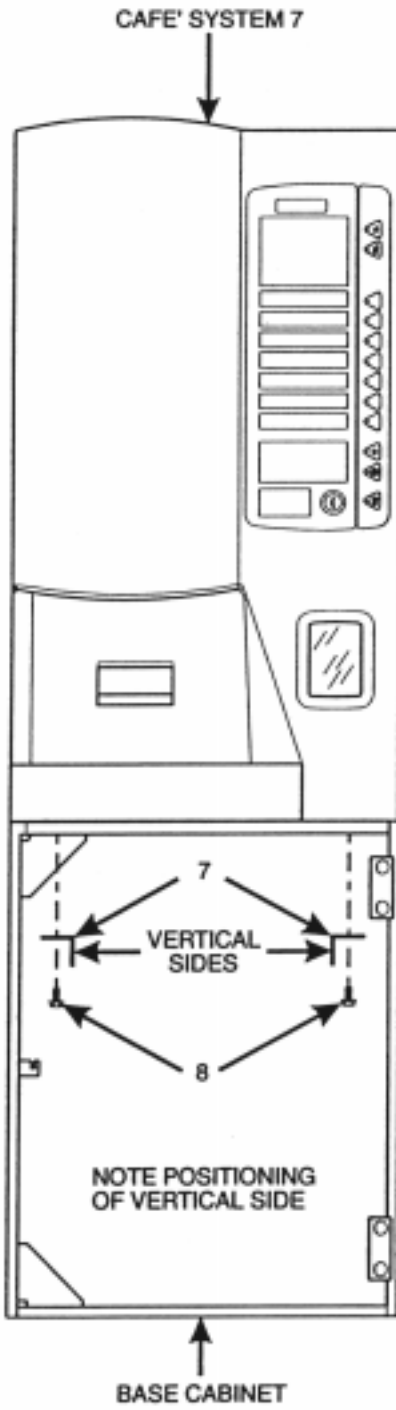
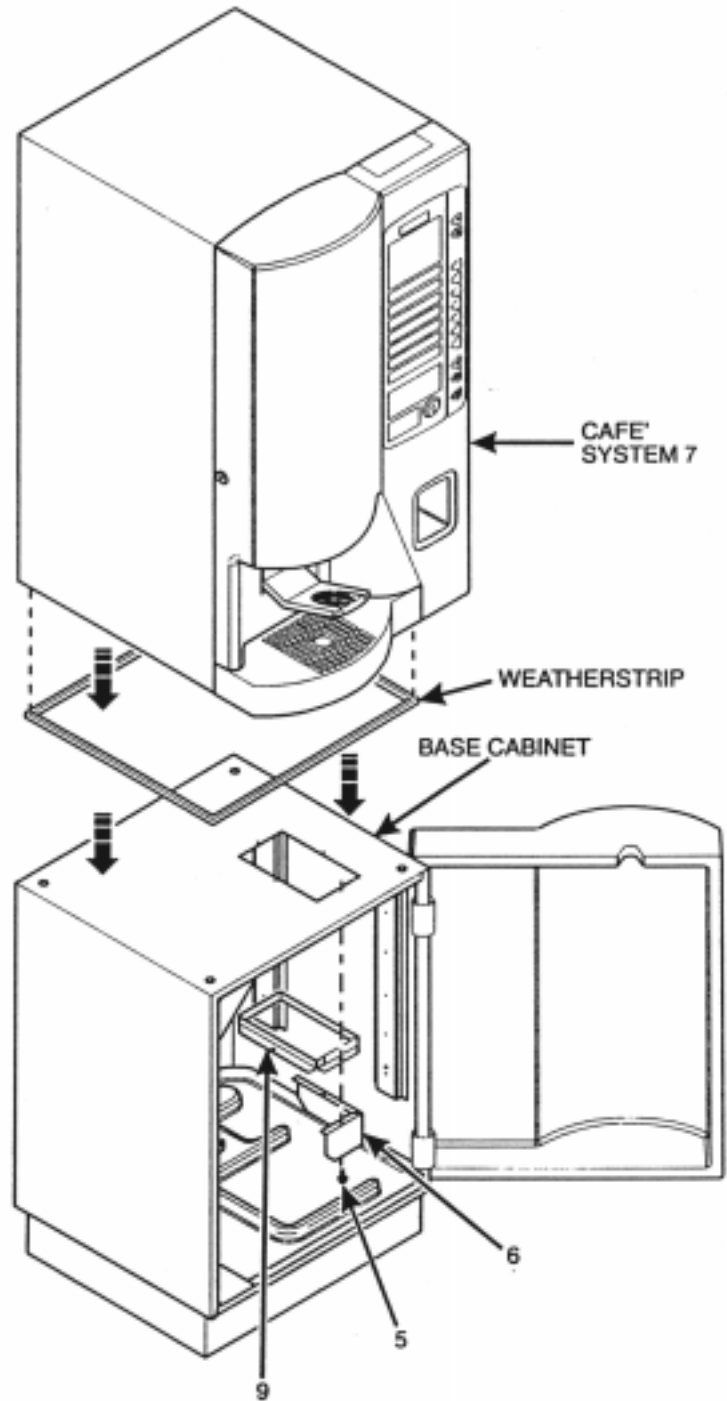

Figure 4
Figure 5
4. Position one of the base cabinet mounting angle brackets (7) as shown (figure 4). The vertical side of the angle bracket **must** be toward the inside of the cabinet to provide maximum strength.
5. Secure the Cafe' System 7 to the base cabinet by inserting a thread cutting screw (8) up through the front hole of the angle bracket and the top of the base cabinet into the plastic foot of the Cafe' System 7. **YOU ARE CUTTING THREADS IN THE PLASTIC FEET. TAKE CARE WHEN TIGHTENING THE SCREWS TO AVOID STRIPPING THE PLASTIC FEET!** Tighten the screw just enough so the angle bracket does not move. Repeat for the rear hole.
7. Install the grounds opening enclosure (9) into the top of the base cabinet from the bottom side as shown (figure 5). Install the grounds opening deflector (6) as shown in figure 5 beneath the grounds opening enclosure. These two parts will ensure all spent coffee grounds are directed into the waste bucket (10). Secure the grounds opening enclosure with four screws (5).